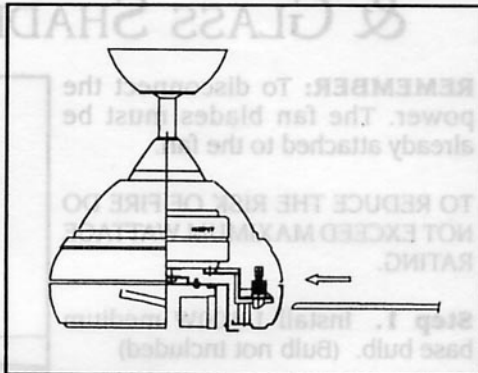

FIG. 15
**Step 1.** Insert the blades into the motor housing blade slots, push blade until snug. You should be able to hear the inside safety pin fall into the blade hole to secure the blade in place. (Fig. 15)